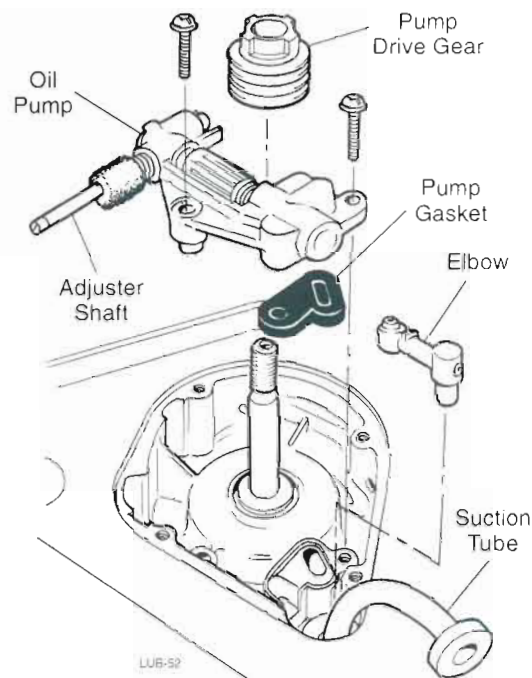

Figure 11.7 Pump and Drive (488 shown)
STEP 4. Remove the oil pump, and then remove the pump elbow and gasket (where used). (Figure 11.7).
STEP 5. Remove the oil suction tube (Figure 11.7).